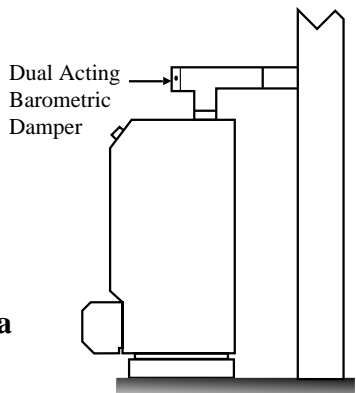
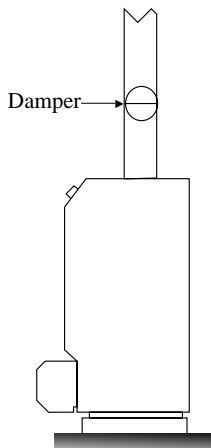

Fig. 3a
Fig. 3c
- The preferred barometric damper installations are shown in Fig. 3a & 3b, for gas installations or Fig. 3c & 3d, for oil installations.
- The preferred barometric damper installations are described under “Locating Water Heater” and Figs.3a, 3b, 3c and 3d.